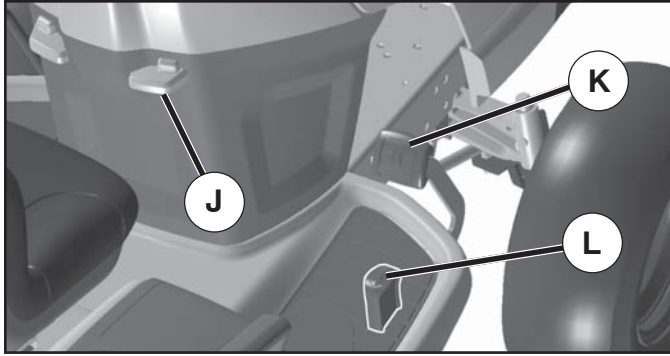

Fig. 20
### TO USE THROTTLE CONTROL (D) (See Fig. 20)
- Slowly depress forward (K) or reverse (L) drive pedal to begin movement. Ground speed increases the further down the pedal is depressed.
### TO USE CRUISE CONTROL (J) (See Fig. 20)